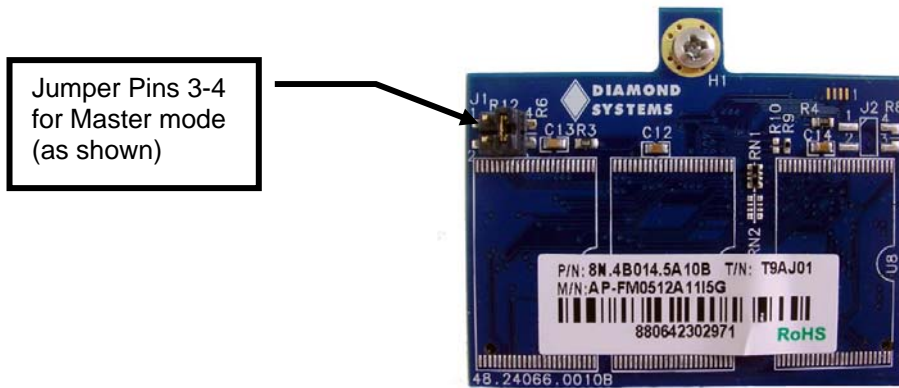

Figure 4. FlashDisk Module Showing Master/Slave Jumper
1. The flashdisk module contains a jumper to determine master or slave mode. The flashdisk must be in master mode for the BIOS to automatically detect the flashdisk at boot time. Insure that the jumper is over pins 3-4 to set master mode (See Figure 4).